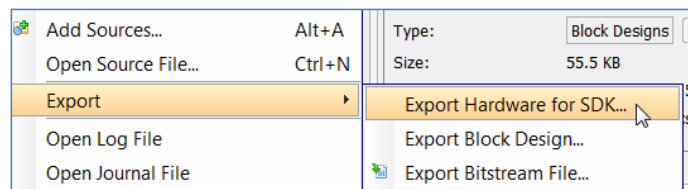

Figure 31: Export Hardware for SDK
2. From the main Vivado File menu, select Export Hardware for SDK (FIGURE 31).